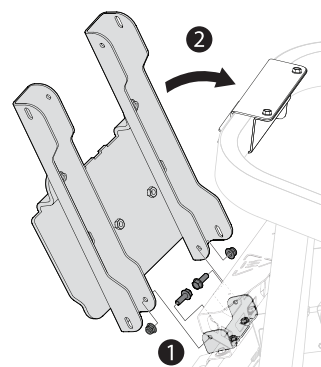

Figure 7
- Working from inside-out, secure mounting plate/strut bracket assembly to lower bracket with two hex head screws (710-1238) and two lock nuts (712-04063). See (1) in Figure 7.
- Swing upper arms of mounting plate/strut bracket assembly toward tractor frame, aligning outside slots with holes on downward flanges of keeper bracket previously attached to frame. See (2) in Figure 7.